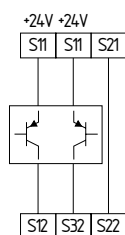

Fig. 10
**Dual-channel control of a safety-related electronic (micro-processor-based) safety guard with p-type transistor outputs e.g. AOPD's to EN IEC 61496 (see Fig. 10)**